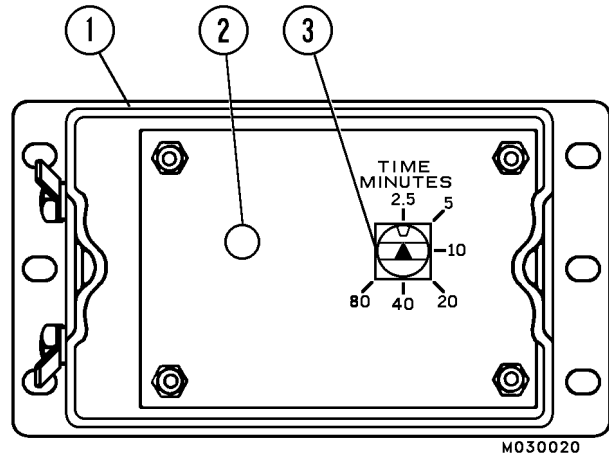

FIGURE 4-10. TIMER (TOP COVER REMOVED)
2. Adjust timer selector (3, Figure 4-10) to 5 minute interval setting.
The timer is factory set for a nominal 2.5 minute (off time) interval. Dwell time is approximately 1 minute, 15 seconds. A longer interval (off time) is obtained by turning the Selector knob (3, Figure 4-10) to the desired position .